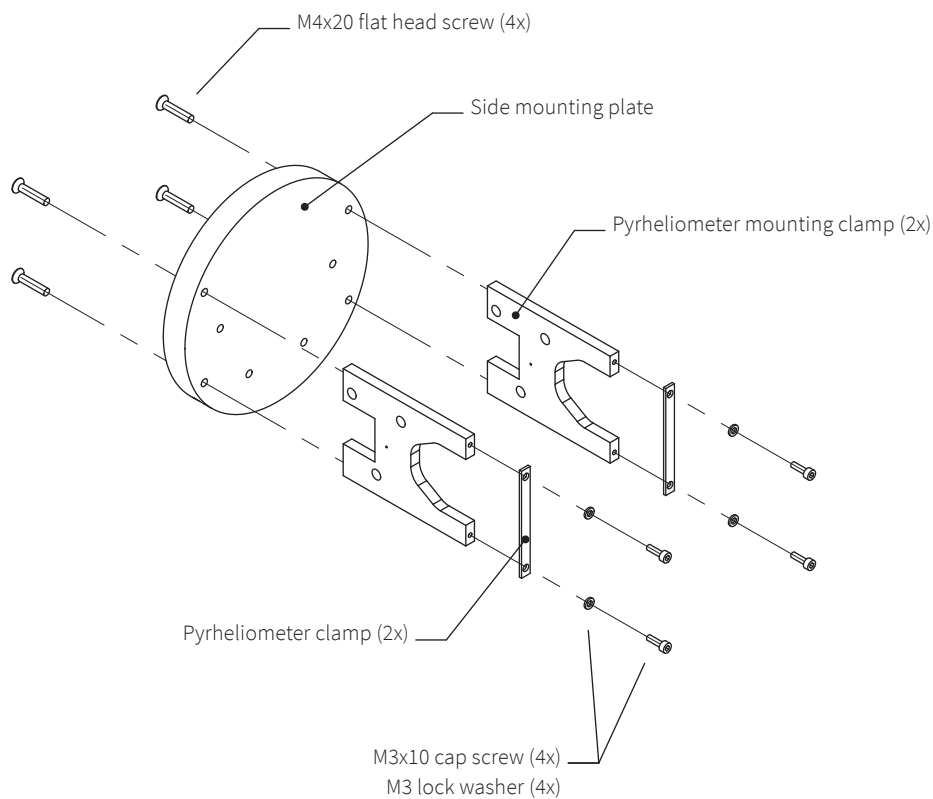

figure 3.1: Assembling a side mounting plate with pyrhelimeter mounting kit
A second side mounting plate is used in conjunction with the shading ball assembly or for mounting a second pyrhelimeter. The supplied plates can be customized to meet your specific configuration requirements. For alignment of a second mounting plate a clear sun is required to adjust the position on the axis. During normal operation (SOLYS turned on) the position of the side mounting plate can be fixated with the alignment target on the mounting clamps (or pyrhelimeter). The hole pattern of the side mounting plate is given in figures 3.1 and 3.3. If a second side mounting plate is used to mount the shading drive arm (without instrument mounting clamps) this drive arm should be aligned with the first one before fixating the screws on the axis. The SOLYS can handle payloads up to 80 kg including all accessories.
- Pre-assemble the side mounting plate as shown in figure 3.1 and attach the side plate assembly to the Zenith shaft.